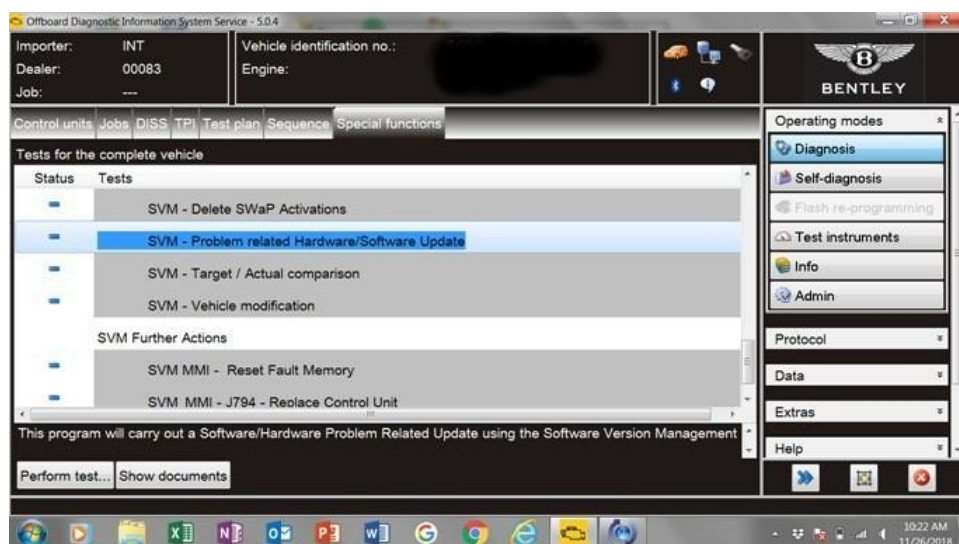

Figure 1
- Because of the highest transmission stability we recommend the use of the diagnosis interface VAS 6154 (WiFi diagnostic tool) only in the USB operation or the cable-connected VAS 5055 for the reprogramming (updating) of control units. If these units are not available, the diagnosis interface VAS 5054 (A) can also be used in USB mode.
1. Select and run Guided fault finding. Within the Special functions tab select SVM – Problem related Hardware/Software update then select Perform test (Figure 1).